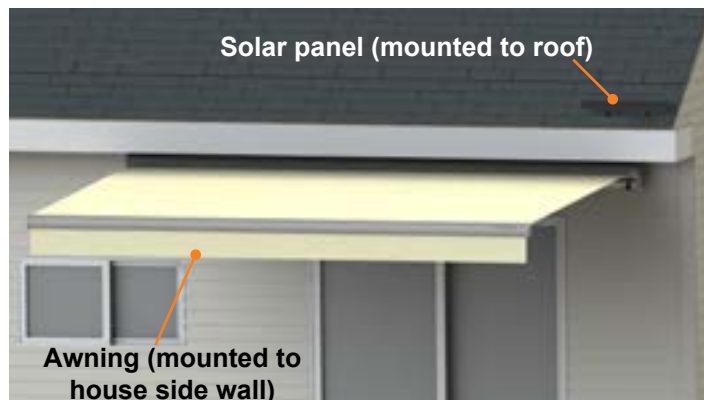

Fig.1
- The Lumina Awning is powered by a remotely mounted solar panel. This panel should receive as much sunlight as possible to power the awning. It must be mounted in such a way that it is above the awning and not covered by it, and not in shade of any kind. Some variation to actual mounting surface may be needed depending on the extenuating circumstances of the install, such as mounting the solar panel to the roof and mounting the awning to the side of the house or soffits (Fig. 1), or mounting the awning on one side of the house and the solar panel around the corner on a different side of the house (Fig. 2). Keeping in mind the position and movement of the sun in relation to the residence and choosing the proper location to install the solar panel is critical to achieve intended product operation.